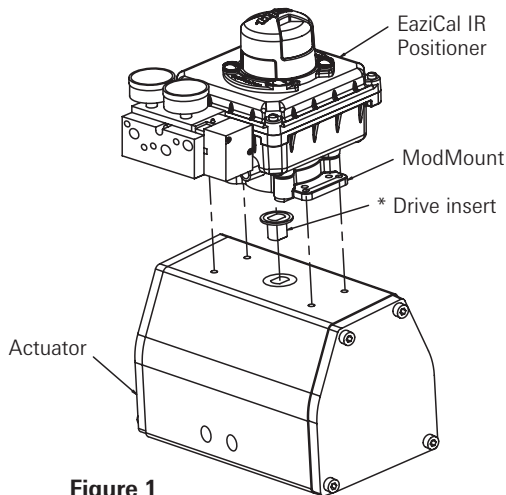

Figure 1
2. Fasten the EaziCal IR positioner to the actuator using (4) M5 x 12 mm hex head screws and (4) M5 washers while engaging its output shaft into the actuator's input (figure 1).